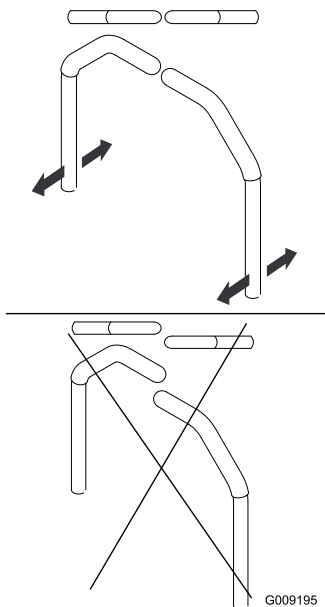

Figure 96
4. Align the levers in the front-to-rear position by bringing the levers together to the NEUTRAL position, and slide them until they are aligned, then tighten the bolts (Figure 96).